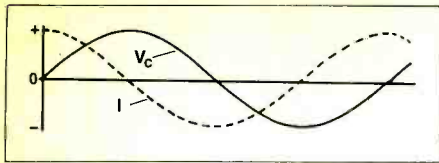

Figure 1
the current flow (in the new direction) reaches a maximum. As the voltage enters the second (negative) 180°, it begins to charge the capacitor again, this time with a polarity opposite to the charging polarity during the positive half of the cycle. The "charging current," which was at a maximum at the 180° point of the voltage cycle, begins to decrease until it reaches zero at the same instant that the voltage cycle reaches its negative peak at 270° into the cycle. From this point, the discharge process takes place again; the voltage decreases from the negative peak towards zero, and the current goes (in the original direction) from zero to its maximum value. A result of this process is that the apparent current "leads" the voltage by 90°, or one quarter of a cycle. The relationship between voltage across (V.), and the current through (I) a capacitor is shown in *Fig. 1*. (From this point on, we will refer to the apparent current through a capacitor as if it were an actual current flow.)